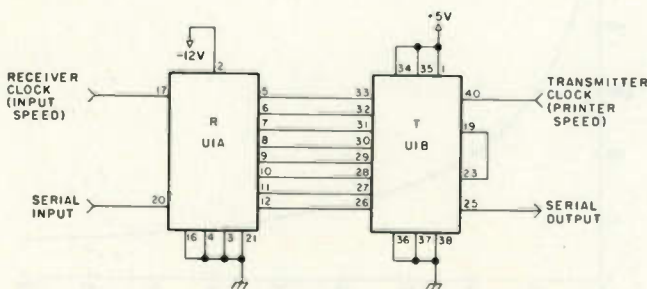

Fig. 1. AY-5-1013 UART.
Okay, so how do we find out how long a "word" is? A mathematical analysis of the 26 letters of the English alphabet (Fig. 1, column B) shows the average length of a character to be 8.3 elements. Now, it would seem that if we simply multiply the average character length of 8.3 times 5 (41.5), then add 3 elements for each of the 4 character spaces (12), plus 7 elements for the word space since it must be included in our time frame, we end up with a word length of:  $41.5 + 12 + 7 = 60.5$  elements.
don't agree, as you can see in Fig. 1, columns C and D, so we averaged them out and came up with the distribution in column E, plus the element count in column F. Now we find that the average letter is about 6.18 elements, rather than 8.3. Substituting in the above formula, our word length is now:  $31 + 12 + 7 = 50$  elements.
Fig. 1 shows the actual UART circuitry. Not much to it, is there? I'm using an AY-5-1013 UART, as it was available at a reasonable price. U1A represents the receiver section and U1B the transmitter. The connections 5 through 12 on the receiver and pins 26 through 33 on the transmitter are the parallel data lines. This one is shown connected for 8 bits of data. Since Baudot code uses 5 bits of data, it is only necessary to connect pins 8
If you are interested in the whys and wherefores of the other pin connections, I shall refer you to the references at the end of this article or, better yet, to the UART data sheet. The UART shown in Fig. 1 is connected for one stop bit, five data bits per character (Baudot), and no parity bit.